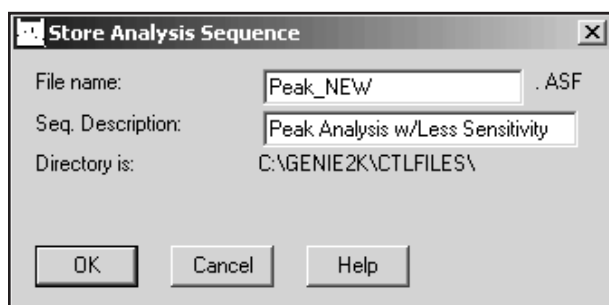

Figure 39 Renaming the Modified Sequence
2. Type a new file name, such as **Peak_NEW**, in the **File name** box (Figure 39).